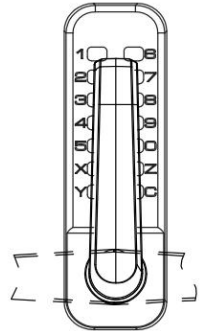

FIG7C
3. Adjust the handle to the desired direction for the door (left/right opening) (Figure 7C), and then tighten the bolt